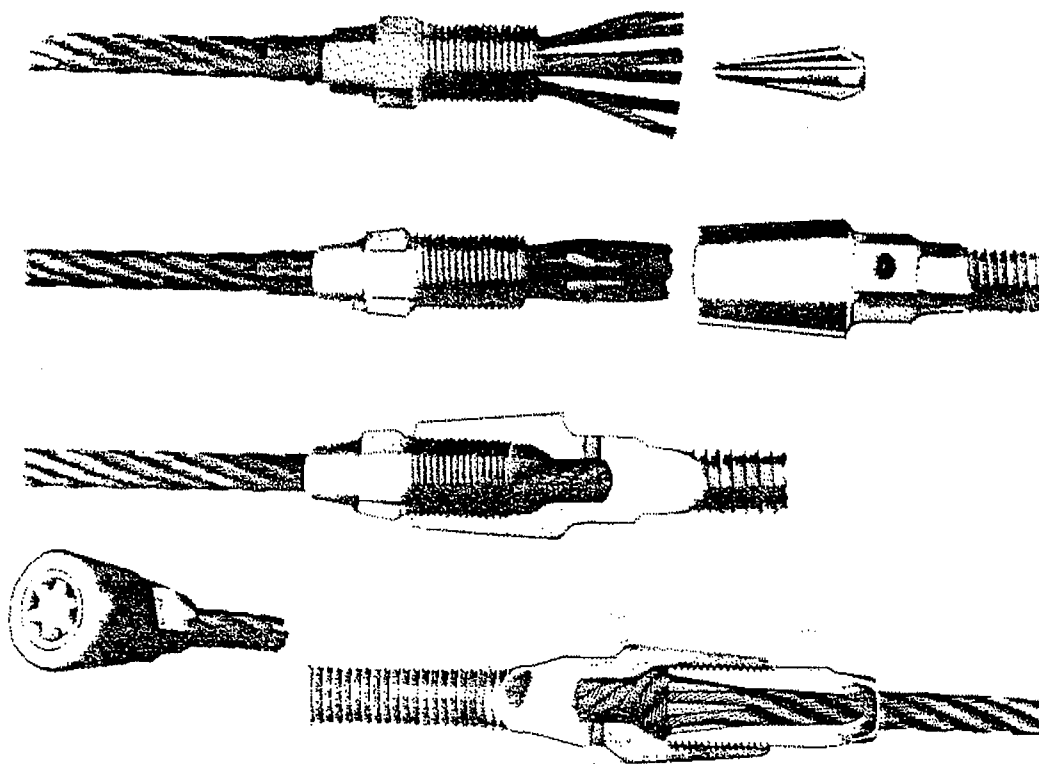

Figure 2-16 Feige wire rope socket
- d. The recommended installation procedures for feige fittings (Refer to **Table 2-8 and Figure 2-16**) are:
- (1) Place assembly blocks on the rope, then place the blocks in a vise.
- (2) Position end of rope to dimension "A" as shown on **Table 2-8** for the size rope being assembled. Tighten vise firmly.
- (3) For fiber core rope only: unlay two strands of the rope (do not unlay any of the wires in the strands) and cut out the fiber core as close to the assembly blocks as possible. Twist the two strands back to original position.
- (4) Twist the untreaded end of sleeve over the end of the rope. Twist in the direction of lay. Twist until dimension "B" is attained.
- (5) Unlay one of the strands. On right lay rope unlay the remaining five strands in a counterclockwise manner. When done correctly, the six outer strands form a symmetrical basket. Do not attempt to straighten the spiral lay of the six strands. For fiber core rope only: Place the plug in the center of the six strands. Drive the plug downward with a hammer while making certain that each of the strands is positioned properly in the plug flutes. The symmetrical basket shape must be retained while the plug is being seated. Drive the plug to a solid seat.
- (6) For IWRC rope only: Do not unlay the core. Insert both halves of the plug around the center core. Drive the plug downward with a hammer while making certain that each of the strands is positioned properly in the flutes of the plug. The symmetrical basket shape must be retained while the plug is being seated. Drive the plug to a solid seat.